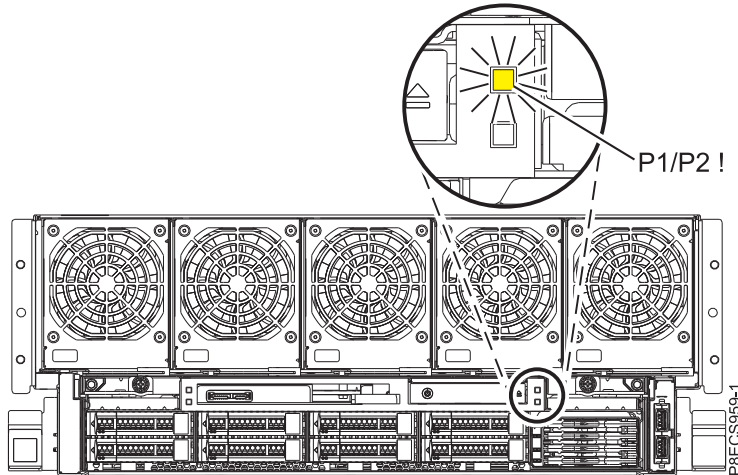

Figure 1. Front P1/P2 ! fault roll-up LED on the 8408-44E or 8408-E8E system.
7. Note the state of the **P1/P2 !** fault roll-up LED, which is located on the front of your system as shown in Figure 1 on page 3.